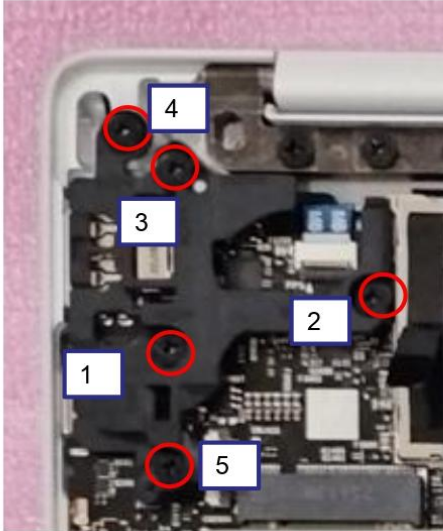

Figure 1
1. Remove the screw M2*4 (6052B0081901)*5 and remove the I/O frame (Figure 1)